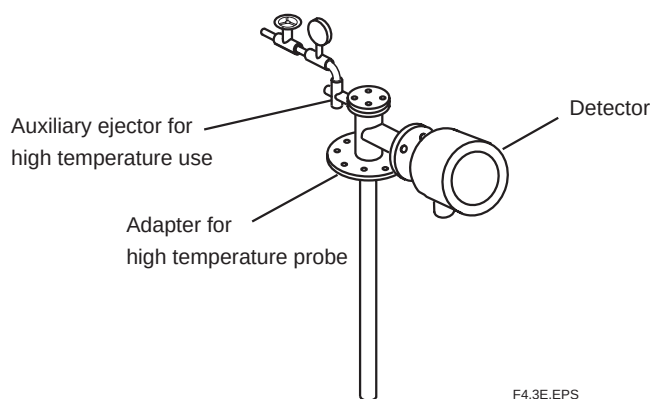

Figure 4.3 Mounting the auxiliary ejector
- When a high temperature detector is used and the pressure of a sample gas is negative, connect an auxiliary ejector on the sample gas outlet of the high temperature probe adapter. (See Figure 4.3 in Subsection 4.1.4.)
- If the pressure of a sample gas is negative, connect an auxiliary ejector (E7046EC/E7046EN) as shown in Figure 4.3. Mount the pressure gauge as close as possible to the auxiliary ejector. However, if the ambient temperature is too high, mount the gauge in a location with a temperature below 40°C.